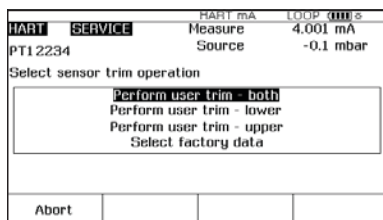

Figure 8.
5. If the As Found test failed (i.e., there were highlighted errors in the error summary table), adjustment is necessary. Press the **Adjust** softkey. Select **Sensor Trim** and press **ENTER**. (Do not select **Pressure Zero Trim**. It is the same as trimming the lower sensor point at zero, which is useful for pressure transmitters that do not offer Sensor Trim.) The 754 screen should look like Figure 8.